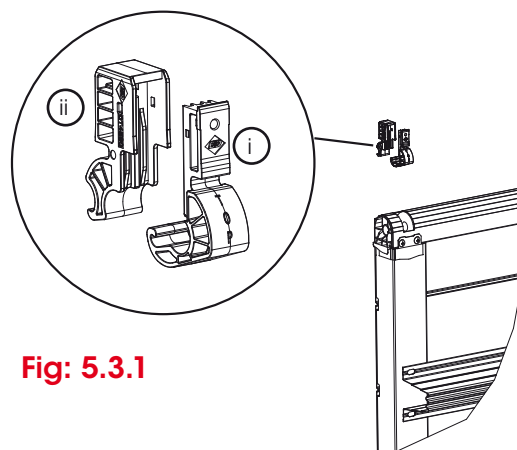

Fig: 5.3.1
- The insulated door split link is installed from the inside of the panel. Click the male section (i) of the link marked TOP in first, ensuring TOP is facing you from the inside of the panel as per Fig 5.3.1.